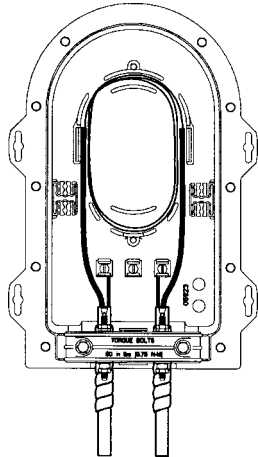

FIGURE 16 - STORING “EXPRESSED” FIBERS OF UNITUBE CABLES
7.04 “Expressed” fibers of the unitube-type cables should be coiled and laid within the storage channel formed by the inner and outer curved walls. (Figure 16)